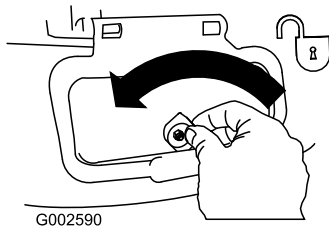

Figure 29
1. Unlock the side-discharge door (Figure 29).